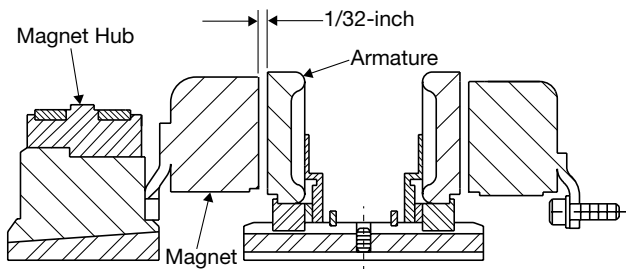

Figure 11
5. Set the autogap by pressing the armature into contact with the magnet face and then releasing it. The armature should spring back about 1/32 inch. (Figure 11)